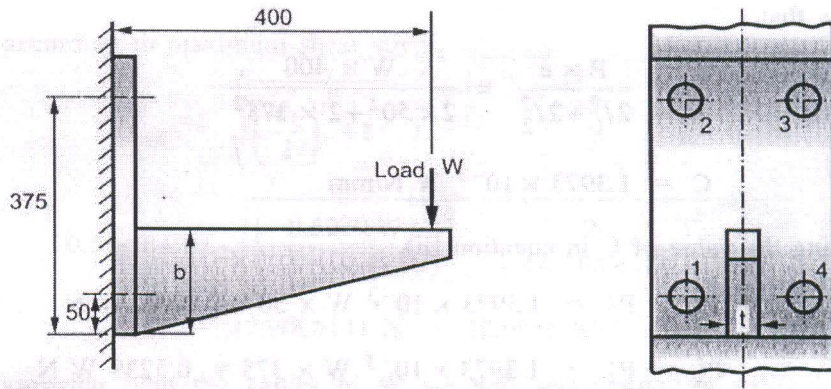

Figure: 1
- b) A bracket shown in figure 1 is fixed to a steel column by using 4 bolts of size M14. A load W acts on the bracket at a distance of 400 mm from the face of column. The permissible tensile stress for the bolt and bracket material is 84 N/mm^2 . The b/t ratio of cross-section of the arm of bracket is 45; [12]